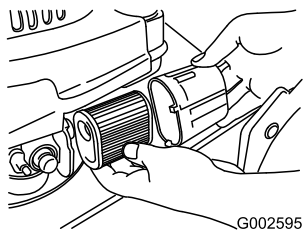

Figure 28
2. Rotate the air filter cover to remove it (Figure 28).